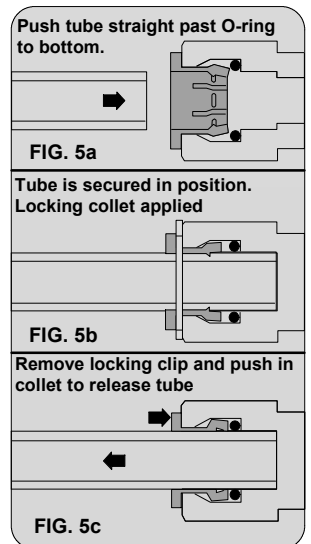

FIG. 5
6. Insert 3/8" drain tube into push-in connector to complete the installation. (See Fig. 5)